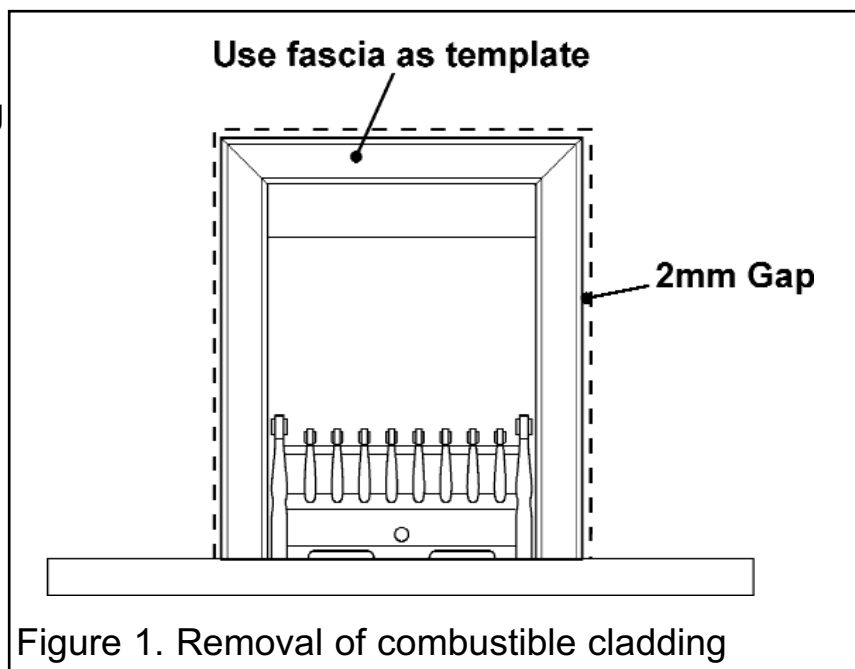

Figure 1. Removal of combustible cladding
3.7.4 If the appliance is to be fitted against a wall with combustible cladding, the cladding must be removed from the area covered by the fascia. The cladding must also not touch the fascia (See figure 1). We suggest that the actual fascia is used as a template to mark the area for combustible cladding removal and that this area is increased by at least 2mm all round.